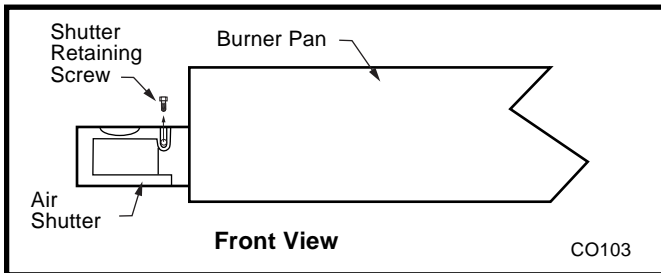

Fig. 61 Remove air shutter from burner pan.
4. Remove air shutters from burner pan by removing shutter retaining screw then air shutter. (Fig. 61)